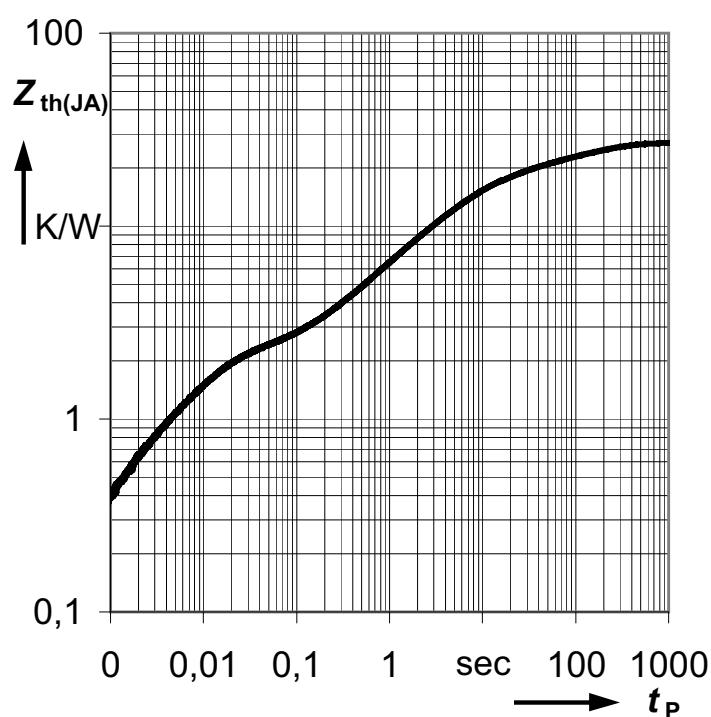

Figure 4 Transient Thermal Impedance $Z_{th(JA)}=f(t_p)$ ⁴⁾
4) Specified R_{thja} value and **Figure 4** are according Jedec JESD51-7 at natural convection on FR4 2s2p board. The BTS50050-1EGA was measured on a 76.2 x 114.3 x 1.6 mm board with 2 inner copper layers (2 x 70 μm Cu, 2 x 35 μm Cu) applying power losses of 1.4W at the channel. According to JESD51-5 a thermal via array under the exposed pad contacted the first inner copper layer. $T_a = 25^\circ\text{C}$.
Figure 4 shows the typical transient thermal impedance of BTS50050-1EGA.